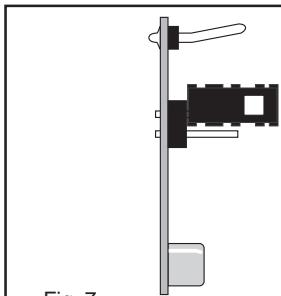

Fig. 7
- Place cover ⑨ in base ③ (Fig. 7), insert screw ⑨ (Fig. 3) and place insert ① (Fig. 1; a & b).
## PROGRAMMING THE SENSITIVITY (PROCESS MODE) (Fig. 7)
## ADJUSTING THE RANGE (Fig. 7)
Verify coverage pattern and adjust if required. When jumper J1 or J2 are not used in a "bridge" situation, the jumpers must be mounted in the upper position. If not they cause a problem when closing the detector (Fig. 7)